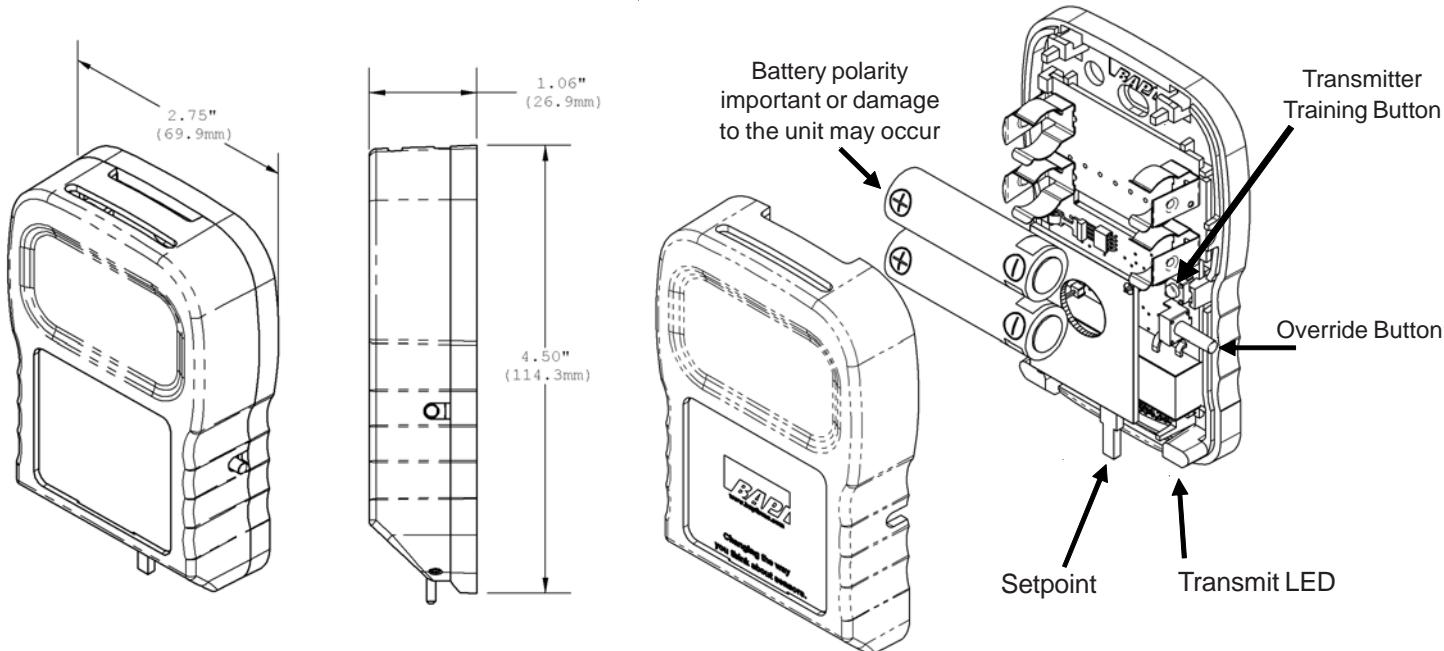
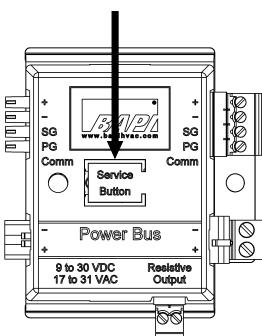

Fig. 2 Wireless Temperature, Humidity, Setpoint & Override Room Transmitter
Fig. 4: Output Module
5. Install provided batteries and follow polarity as shown above in figure 2 or damage may occur. The unit will work on just one battery however the battery life will be cut in half.
3. Remove the cover of the transmitter and install the batteries, observe polarity or damage to the unit may occur. The small LED at the bottom right of the circuit board, next to the setpoint (see Figure 2), should flash approximately once every 10 seconds, indicating a transmission. (The flash is very quick.)
4. Press and hold down the *Service Button* on the output module (Figure 4). Then, press and release the training button (Figure 2) on the transmitter. When the output module has received a valid data packet from the transmitter the output module's red LED will light and remain lit as long as you hold down the output module's service button. Release the service button on the output module and the output module's LED will go out. During normal operation the output module's LED will flash indicating data reception approximately once every 10 to 20 seconds in time with the transmitter trained to it. The output module is now receiving data from the transmitter.
2. Remove the cover of the transmitter and install the batteries, observe polarity or damage to the unit may occur. The small LED at the bottom right of the circuit board, next to the setpoint (see Figure 2), should flash approximately once every 10 seconds indicating a transmission. (The flash is very quick.)
3. Press and hold down the *Service Button* on the output module (Figure 4). Then, press and release the training button (Figure 2) on the transmitter. When the output module has received a valid data packet from the transmitter the output module's red LED will light and remain lit as long as you hold down the output module's service button. Release the service button on the output module and the output module's LED will go out. During normal operation the output module's LED will flash indicating data reception approximately once every 10 to 20 seconds in time with the transmitter trained to it. The output module is now receiving data from the transmitter.
3. Remove the cover of the transmitter and install the batteries, observe polarity or damage to the unit may occur. The small LED at the bottom right of the circuit board, next to the setpoint (see Figure 2), should flash approximately once every 10 seconds indicating a transmission. (The flash is very quick.)
4. Press and hold down the *Service Button* on the output module (Figure 4). Then, press and release the **OVERRIDE** button (Figure 2) on the transmitter. (NOTE: If unit was not ordered with an override button, the button is inside the case). When the output module has received a valid data packet from the transmitter, the output module's red LED will light and remain lit as long as you hold down the output module's service button. Release the service button on the output module and the output module's LED will go out. During normal operation the output module's LED will flash indicating data reception approximately once every 10 to 20 seconds in time with the transmitter trained to it. The output module is now receiving data from the transmitter.
- Remove the cover of the transmitter and install the batteries, observe polarity or damage to the unit may occur. The small LED at the bottom right of the circuit board, next to the setpoint (see Figure 2), should flash approximately once every 10 seconds indicating a transmission. (The flash is very quick.)
- Place the previously trained **Temperature** or **Setpoint** output module's jumper J4 in the Override Training Position. (See Figures 6 and 7) Press and hold down the **Service Button** on the output module (Figure 4). Then, press and release the **OVERRIDE** button (Figure 2) on the transmitter. When the output module has received a valid data packet from the transmitter, the output module's red LED will light and remain lit as long as you hold down the output module's service button. Release the service button on the output module and the output module's LED will go out. During normal operation the output module's LED will flash indicating data reception approximately once every 10 to 20 seconds in time with the transmitter trained to it. The output module is now receiving data from the transmitter. Remove the jumper on J4 and store it on the right Storage Position Pin. (Figure 7) Replace the Output Module's cover.
- Press and hold down the **Service Button** on the output module (Figure 4). Then, press and release the **OVERRIDE** button (Figure 2) on the transmitter. When the output module has received a valid data packet from the transmitter, the output module's red LED will light and remain lit as long as you hold down the output module's service button. Release the service button on the output module and the output module's LED will go out. During normal operation the output module's LED will flash indicating data reception approximately once every 10 to 20 seconds in time with the transmitter trained to it. The output module is now receiving data from the transmitter.